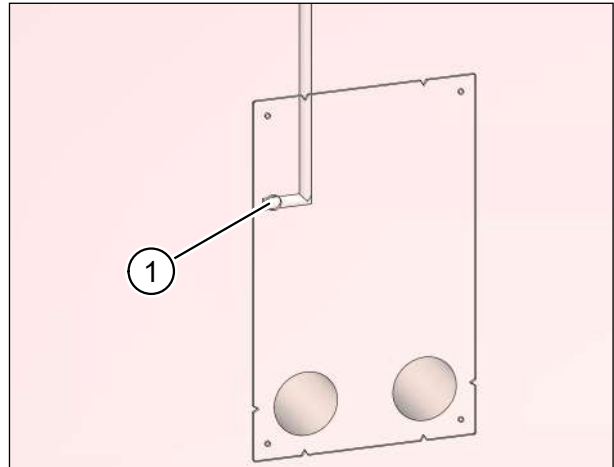

Fig. 21: Chasing out the wall channel for mains and control cables
- ▶ Chase out a wall channel for the mains and control cable starting from the cable passage (item 1 in Fig. 21).